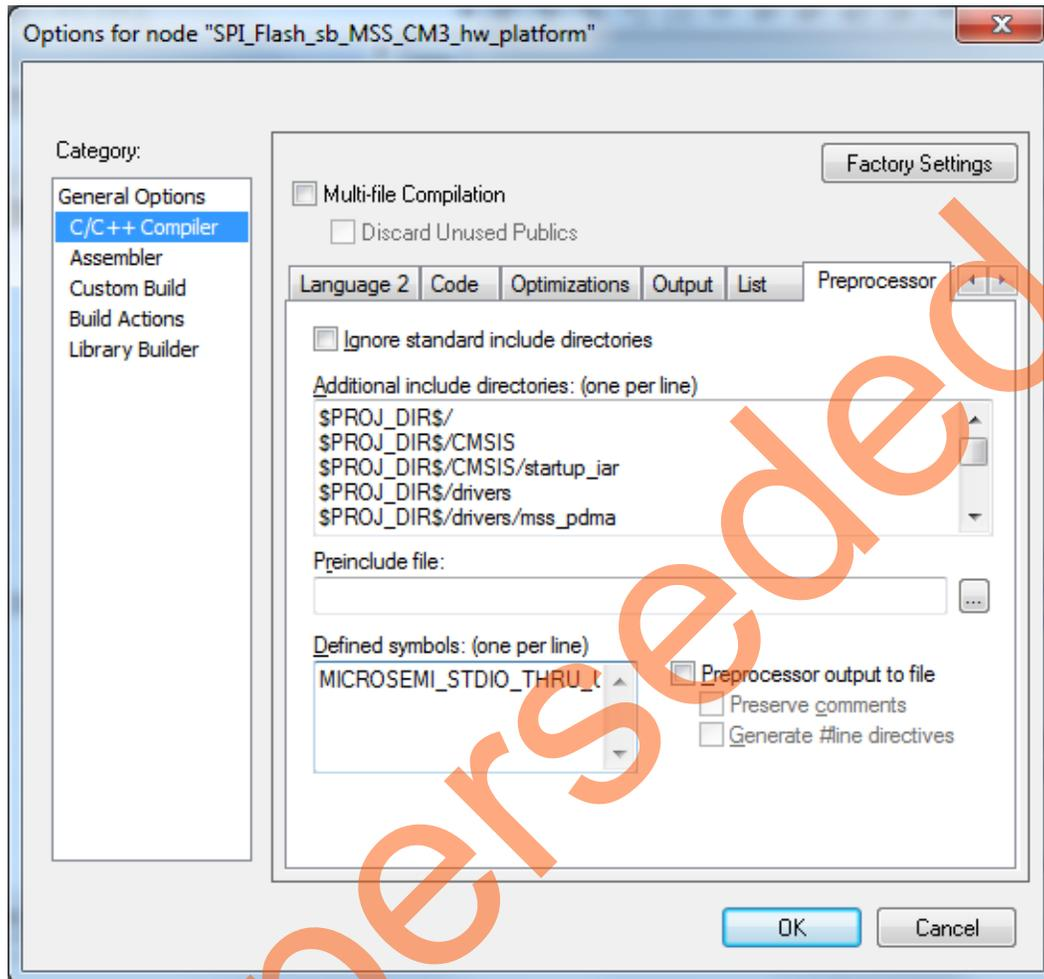

Figure 26 • IAR Workspace Window - Adding Symbol
- Under **Defined symbols**, enter **MICROSEMI_STDIO_THRU_UART** and click **OK**, as shown in Figure 26.